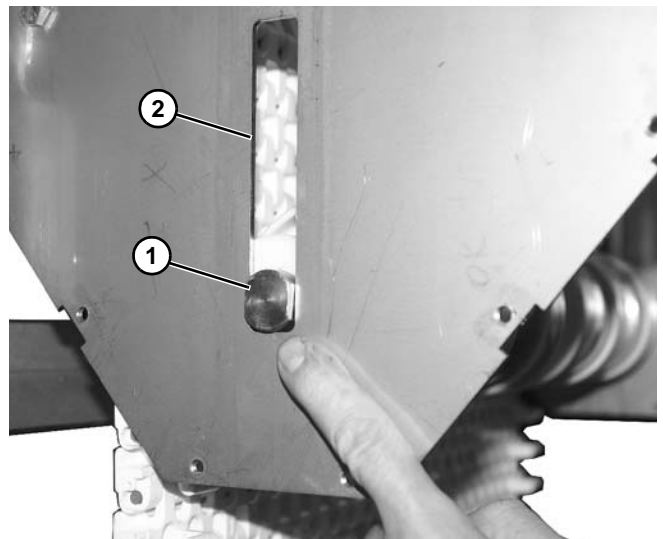

Figure 101
5. Lower take-up assembly so that shaft tapered end (Figure 101, item 1) fits into slotted end (Figure 101, item 2) on frame.